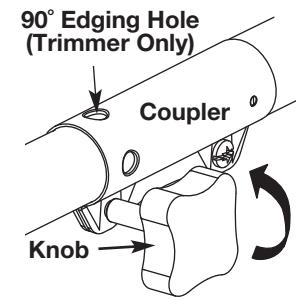
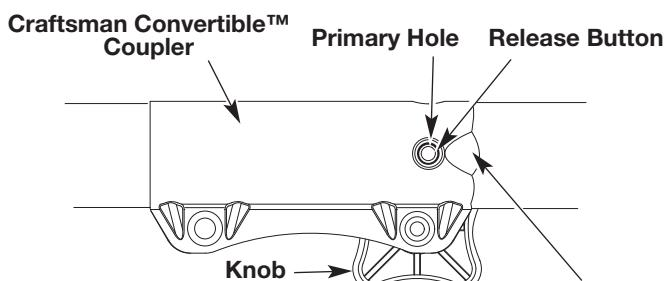

Fig. 16
Fig. 17
- Turn the knob counterclockwise to loosen coupler (Fig. 16).
- Push in the release button (Fig. 17) and twist the shaft 90° until the release button snaps into the 90° hole (Fig. 16).
**CAUTION:** Before operating this unit, be sure that the release button is fully snapped into the primary hole (Fig. 16), and that the knob (Fig. 17) is securely tightened.
- Turn the knob counterclockwise to loosen the coupler (Fig. 16).
- While firmly holding the attachment, push it straight into the coupler until the release button (Fig. 17) snaps into the primary hole (Fig. 16). The primary hole is on the opposite side of the coupler from the knob (Fig. 17). Align the release button with the Guide Recess (Fig. 17) to help installation.
- Press and hold the release button (Fig. 17).